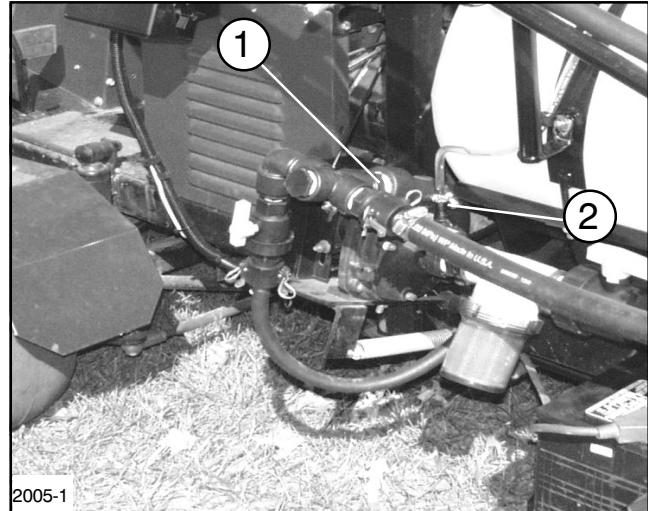

FIG. 1
1. Remove the top Pipe Plug from Pump, apply thread sealer and install 1/8" Street Elbow into Pump and install Vent Tube Shut-off Valve into Elbow. See FIG. 1 & 2. (Street Elbow should be painted to prevent rust)